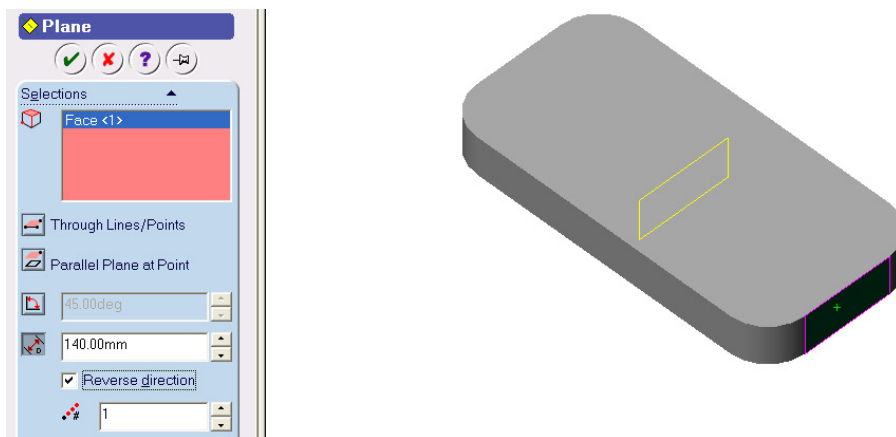

Figure 5 Offset plane
3. Select the side face of the base as shown in Figure 5. Its name appears in the **Selection** text box.